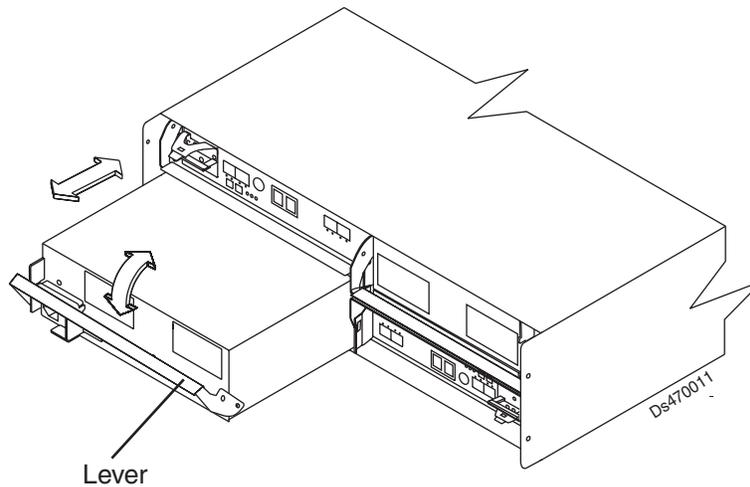

Figure 106. Replacing a power supply and fan unit
Use the following procedure to replace an AC power supply and fan unit. Figure 106 on page 160 illustrates removing and inserting a unit.
11. Slowly pull the lever away from the chassis to remove the power supply and fan unit, as shown in Figure 106 on page 160.
Use the following procedure to replace a DC power supply and fan unit. Figure 106 on page 160 illustrates removing and inserting a unit.